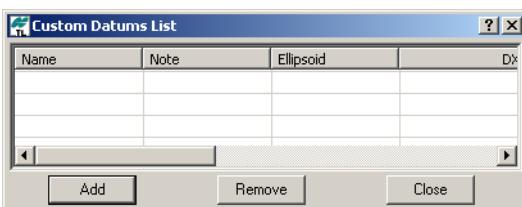

Figure 3-9. Custom Projection List
2. In the *Custom Datums List* dialog box, click **Add** (Figure 3-9).